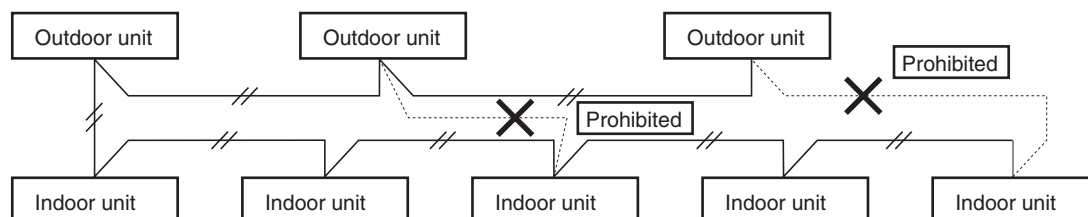

Fig. 2-3-1
- (2) Do not install the inter-unit control wiring in a way that forms a loop. (Fig. 2-3-1)